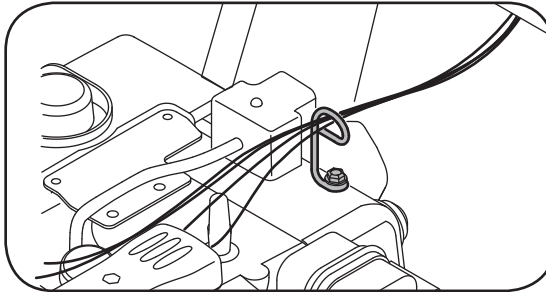

Figure 6
8. Check that all cables are properly routed through the cable guide on top of the engine. See Figure 6.